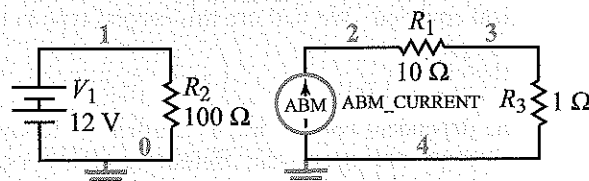

Figure E2-14
**Exercise 2-14:** Simulate the circuit shown in Fig. E2-14 and solve it for the voltage across  $R_3$ . The magnitude of the dependent current source is  $V_1/100$ .